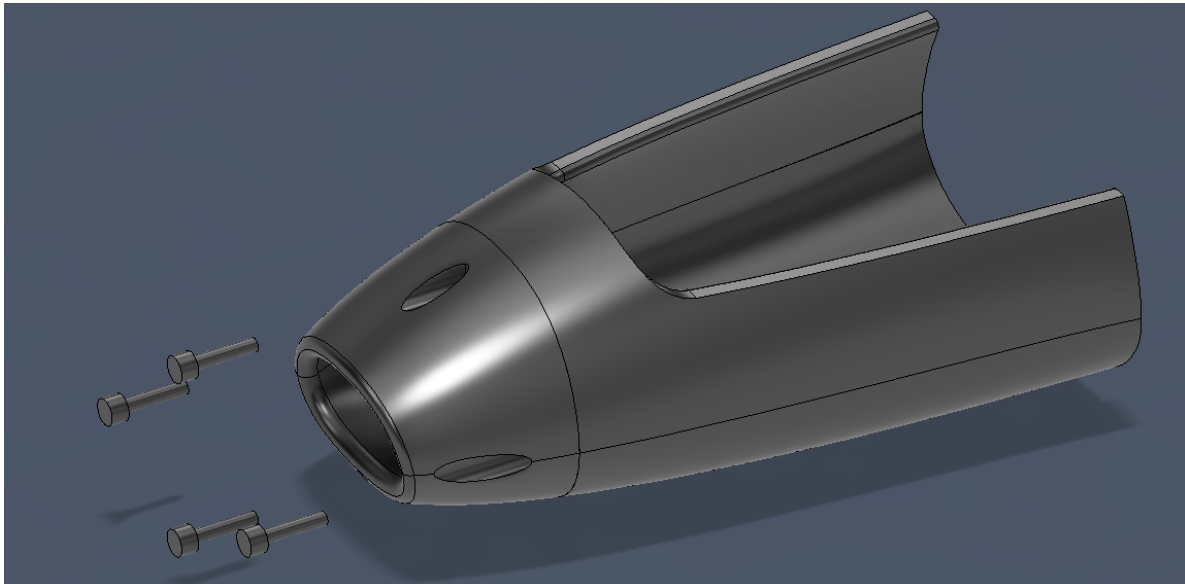

Figure 6: Fus (1) and Fus (2) assembly
Attach **Fus (1)** to **Fus (2)** by aligning the parts and securing them with 10 mm M3 screws, as seen in Figure 6. Insert the screws through the designated holes and tighten them into the pre-installed threaded inserts until snug, ensuring the components are properly aligned and firmly fastened without over tightening.